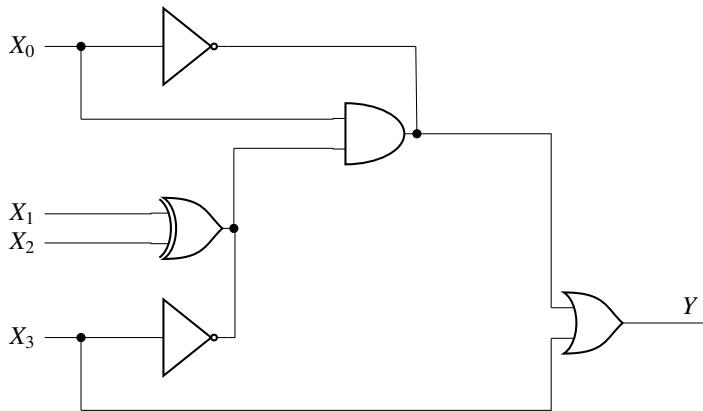

Fig. 3.19
36. In Fig. 3.19, the number of distinct values of $X_3X_2X_1X_0$ (out of the 16 possible values) that give $Y = 1$ is _____. (GATE EC 2018)